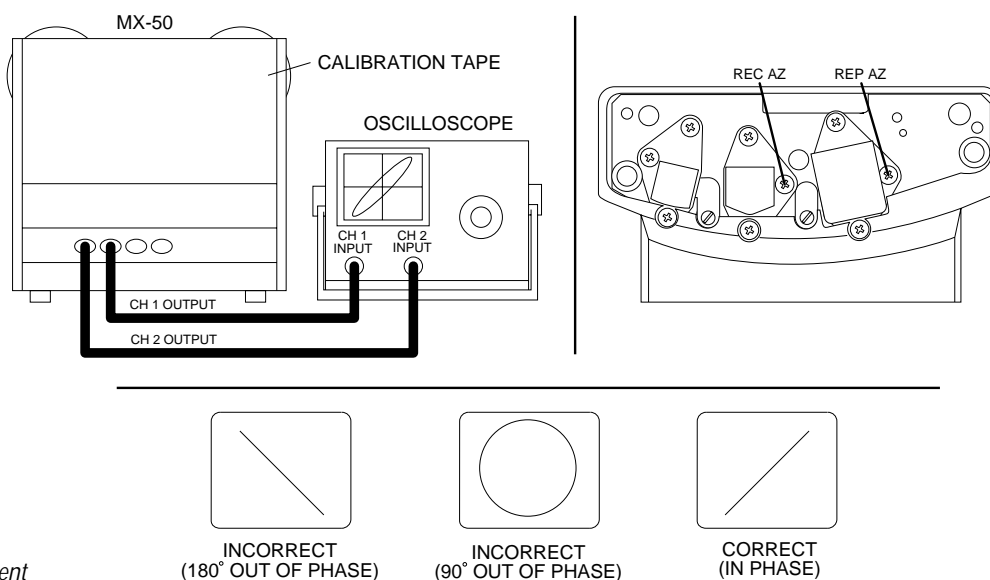

Figure 5-11
3. Locate and play the 1 kHz portion of the calibration tape and adjust the screw marked "REP AZ (Repro Azimuth)" in Figure 5-11, until the pattern on the oscilloscope becomes a straight line at a 45 degree angle as shown in Figure 5-11.
4. Adjust the record head azimuth adjustment screw until the display on the oscilloscope becomes a straight line at 45 degrees as shown in **Figure 5-11**.